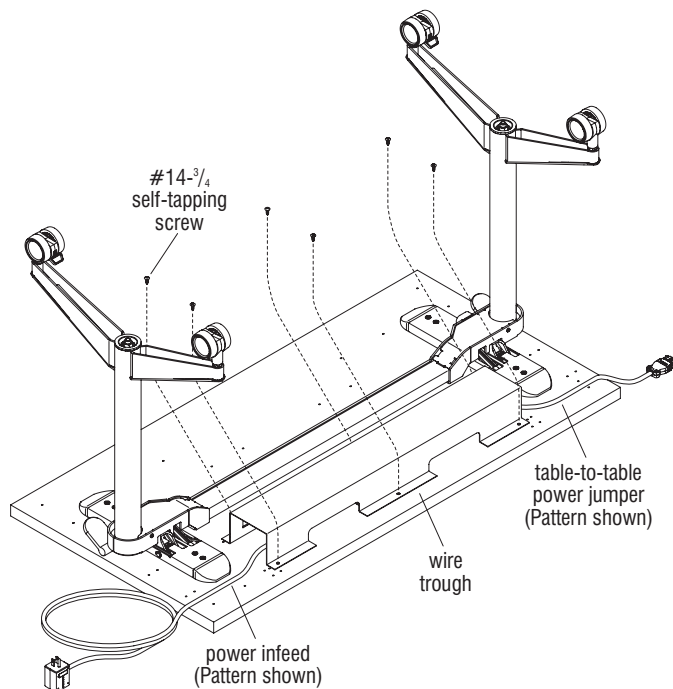

Figure 2
1. Holding contents inside the wire trough, carefully turn it over 180-degrees, (upside-down) onto the tabletop, and over the power module(s). Adjust the power infeed, the connectors and cables in the trough so the trough lays flat. Align the wire trough mounting holes with the pre-drilled holes in the underside of the tabletop, and secure wire trough to tabletop using six #14 x $\frac{3}{4}$ " self-tapping screws. Do not over-tighten (Figure 2).